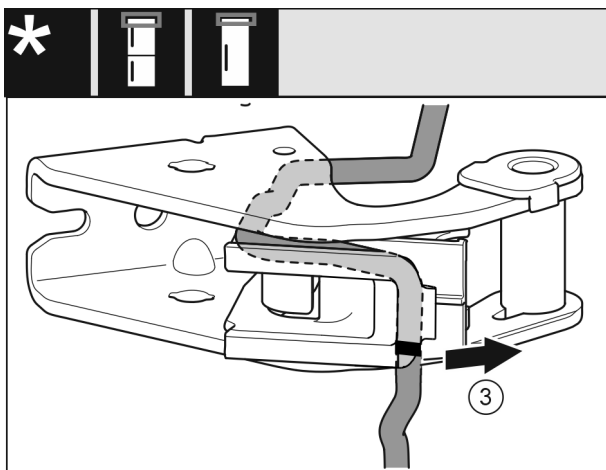

Fig. 29
- Remove the cable with the cable holder Fig. 29 (3) from the swap bearing block.